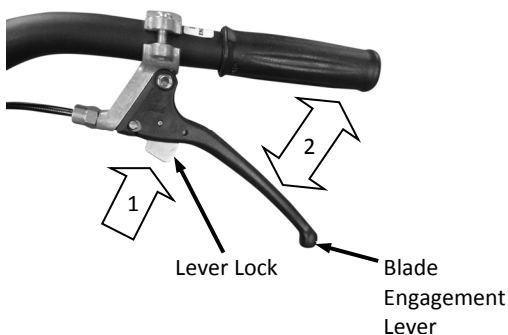
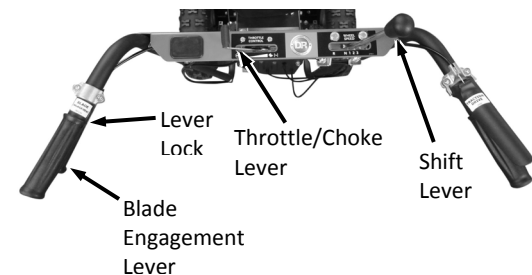

Figure 6
Figure 16
5. Press the Lever Lock (1), pull and release the Blade Engage Lever a few times (2), then fully release the Blade Engage Lever (Figure 6).
1. Engage the Blade by pressing the Lever Lock (see Figure 6 on page 10), then squeezing the Blade Engagement Lever to the Handle (Figure 16).
1. Release the Blade Engagement Lever (Figure 16).
1. Stop the Blade by releasing the Blade Engagement Lever (Figure 16).